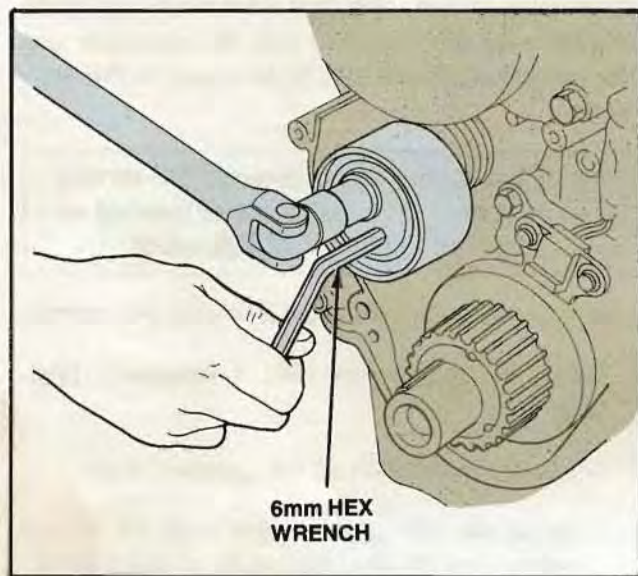

Figure 124. Tightening the Idler
- Insert a 6mm hex wrench into the idler screw while holding the idler with a wrench or socket. Rotate the idler fully clockwise to apply pressure on the spring and tighten the nut (Fig. 124).